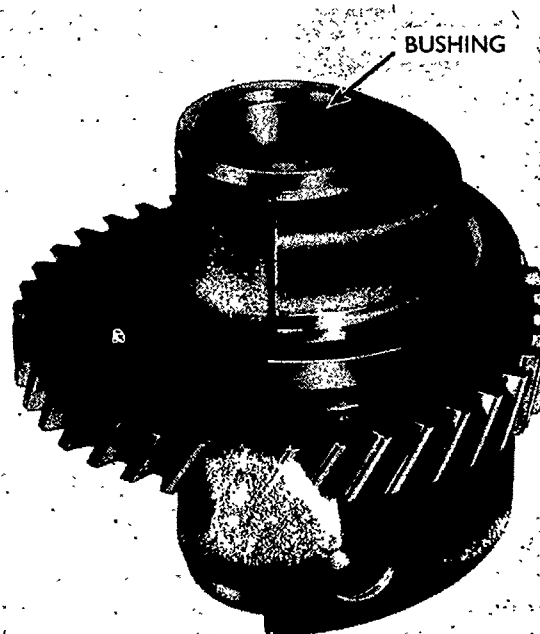

Figure 63
2. Using micrometers, measure the outside diameter of the shafts and the inside diameter of the bushings, Figure 63. If shaft-to-bushing clearance, or shaft diameter, exceeds the specifications, page 63, install a new shaft or a new gear, and recheck shaft-to-bushing clearance.